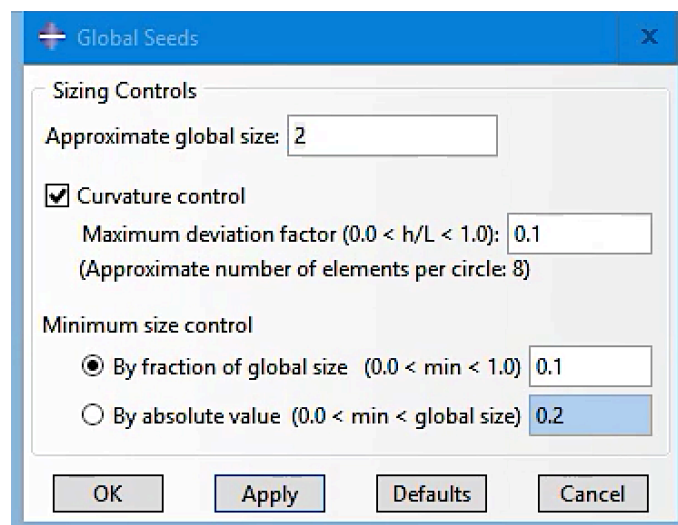

Figure 30 Seeding dialog box
- Next, click on the **Seed Part Instance** button to define global seeds. In the appeared dialog box, enter 2 (or more) for **Approximate global size**. Seeds are actually the nodes of the finite elements defining the approximate element size for all edges of a part or part instance. The toolbox provides a variety of tools for defining seeds. In this example we want to create one element per each truss member. Entering a number bigger than the maximum member length, which in this example is $\sqrt{2}$, for approximate global size is a naïve way to dictate the program to create one element for each member (Figure 30).